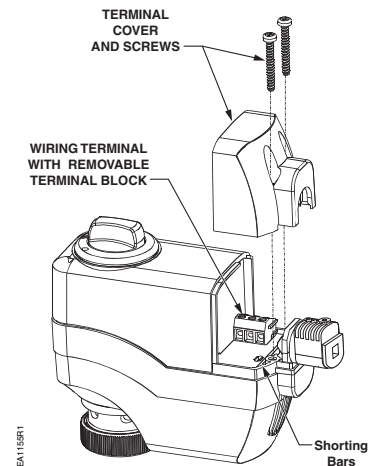

Figure 2. Manually Clearing Calibration Stroke from Memory.
3. Insert and gently twist a flat-blade screwdriver to electrically connect the shorting bars (Figure 2). The SSC81... then performs a new calibration stroke.